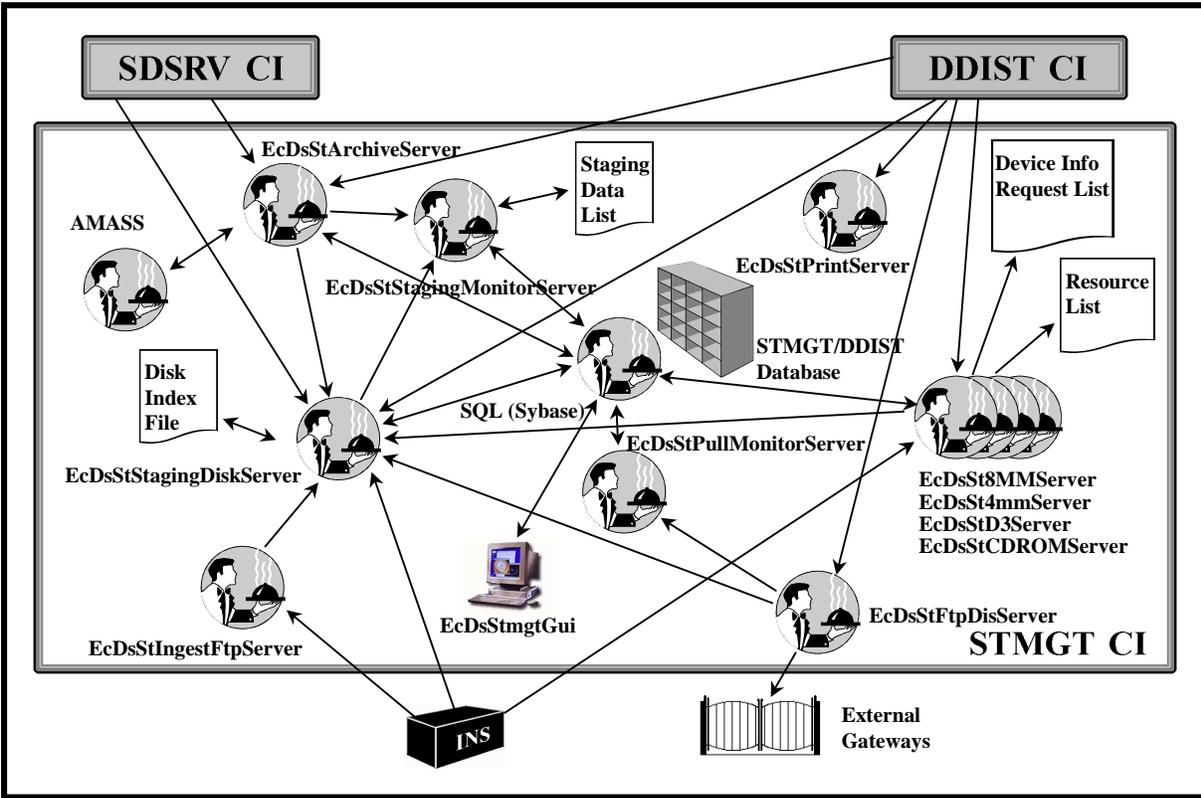

Figure 3. Storage Management (STMGT) CSCI Architecture
- STMGT (Figure 3) is the part of the DSS that stores, manages, and retrieves data files on behalf of other parts of the Science Data Processing components (including Data Distribution).
STMGT has the following major components (as shown in Figure 3):